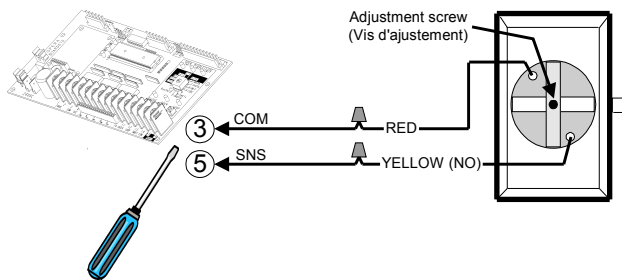
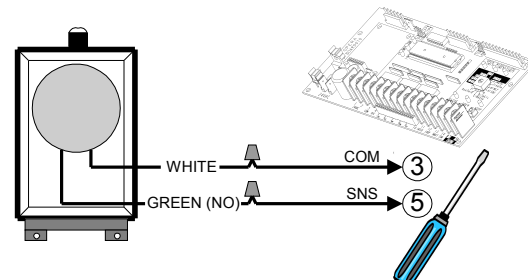

Figure 32 - AIRSWITCH 001 / 007
Figure 33 - AIRSWITCH 009
3. Use a coil cord or take-up reel to connect the air switch to the operator terminals. Install electric wires according to Figure 32 or Figure 33.